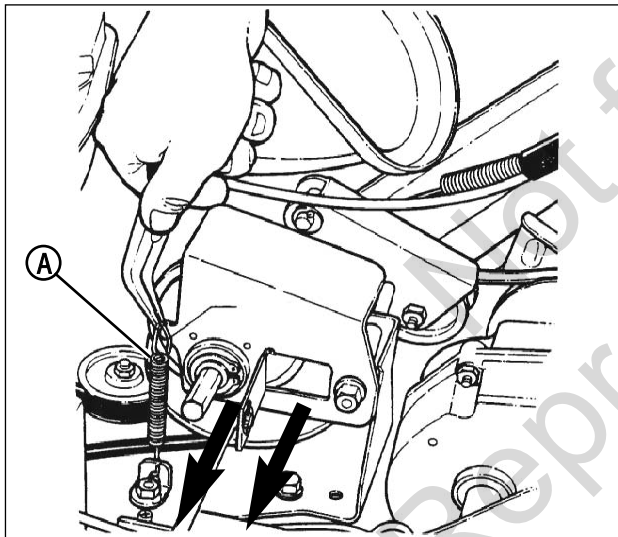

Figure 29: Removing the driven disc assembly
- Using needle nose pliers, unhook the drive spring (A, Figure 29) and slide the driven disc assembly off the hex shaft.